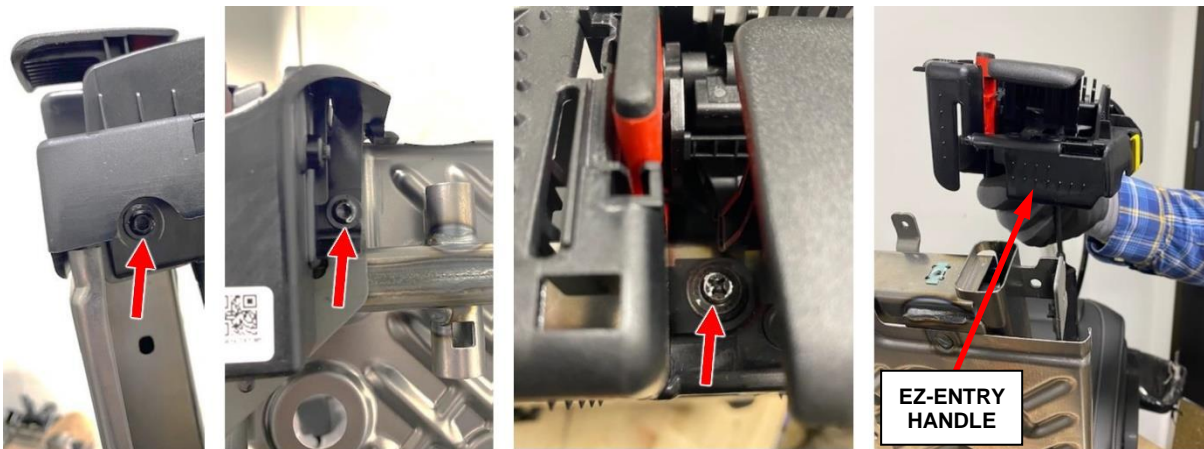

Figure 64 – EZ-Entry Handle
34. Remove the three screws that secure the EZ-Entry handle to the seat back frame (Figure 64).
35. Remove the EZ-Entry handle from the seat back frame (Figure 64).
47. Position the EZ-Entry handle to the seat back frame then install and tighten the three screws that secure the EZ-Entry handle to the seat back frame (Figure 64).